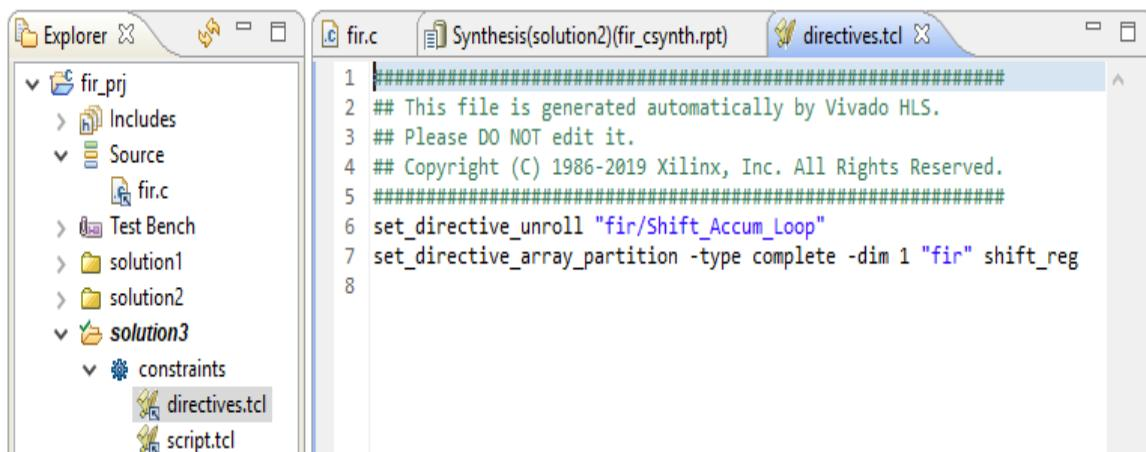

Figure 2-29: **Solution3 Directives.tcl File**
11. In the Explorer pane, expand the **Constraint** folder in `Solution3` as shown in Figure 2-29.